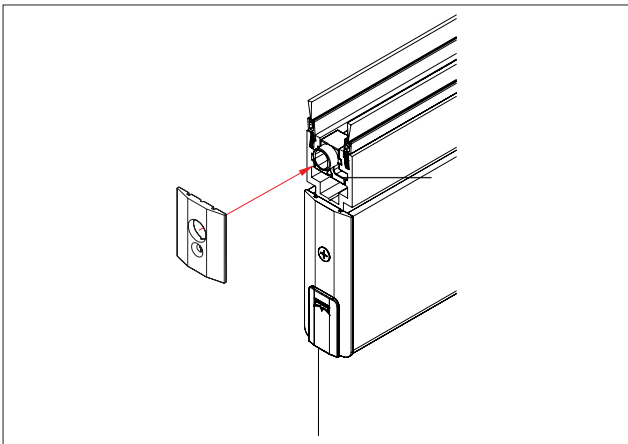

Fig. 49 Installing the cover
5. Placing the cover on the combination fixing block (Fig. 49).